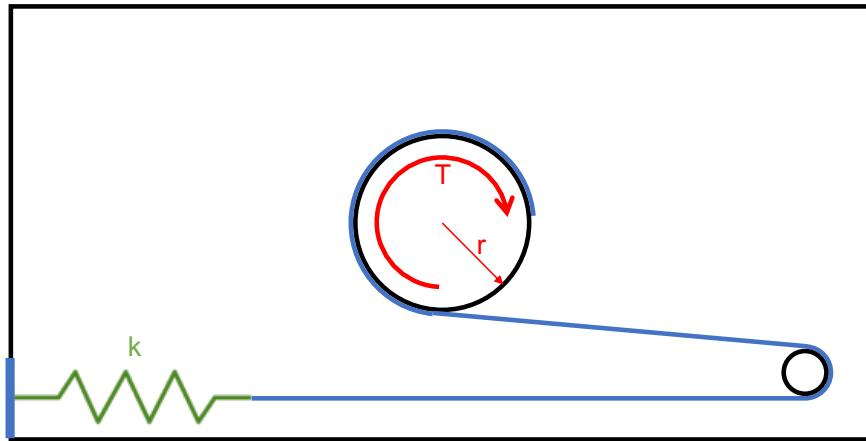

Figure 4.6: Torque analysis schematic.
1. Consider the situation described in Figure 4.6. A blue string is attached to a black disc with radius  $r$  and - passing over a return pulley - to a green spring with spring constant  $k$ . The black disc is fastened to a servo motor with torque  $T$ . Using the values:  $k = 500\text{N/m}$ ,  $r = 0.02\text{m}$  as well as the torque of the servo that you can find on the datasheet and neglecting friction, how far should you be able to stretch the spring, before the servo stalls? (**PostLab Q2**)